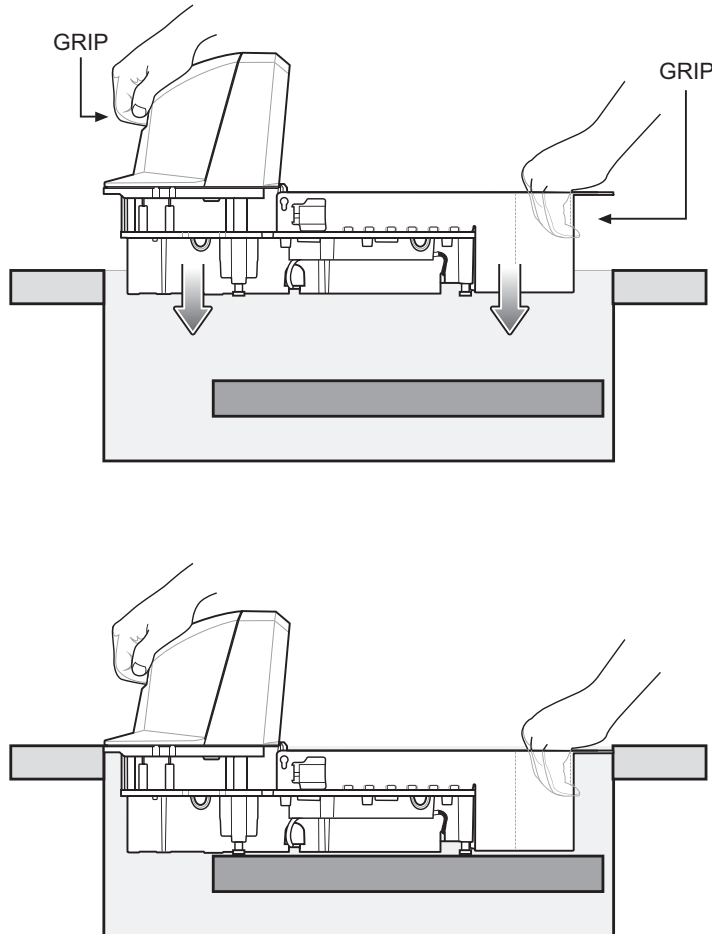

Figure 3-40 Lowering the MP6000 into the Counter
- b. To grasp the MP6000 to lower it into the checkstand, use the support handle on the back of the tower cover together with the front part of the scale, or the handle in the front flange area (depending on the model). See Figure 3-40 on page 3-30.